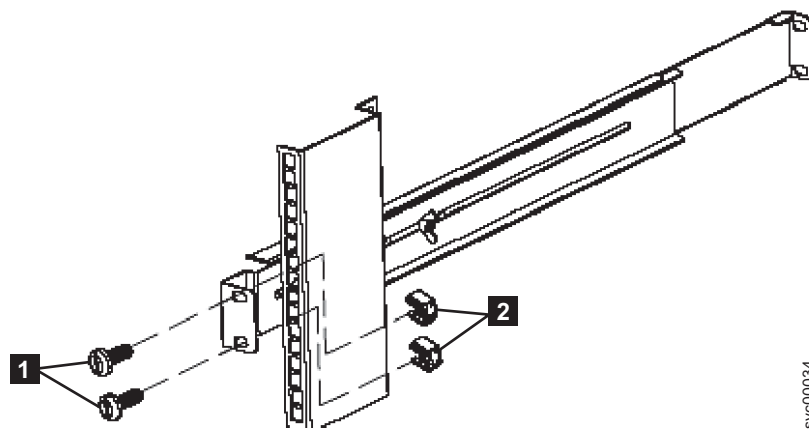

Figure 27. Securing the rear rail on the 2145 UPS-1U
6. Using two M6 × 10 screws (**1** in Figure 27) and two clip nuts (**2**), attach the rail to the rear of the rack.